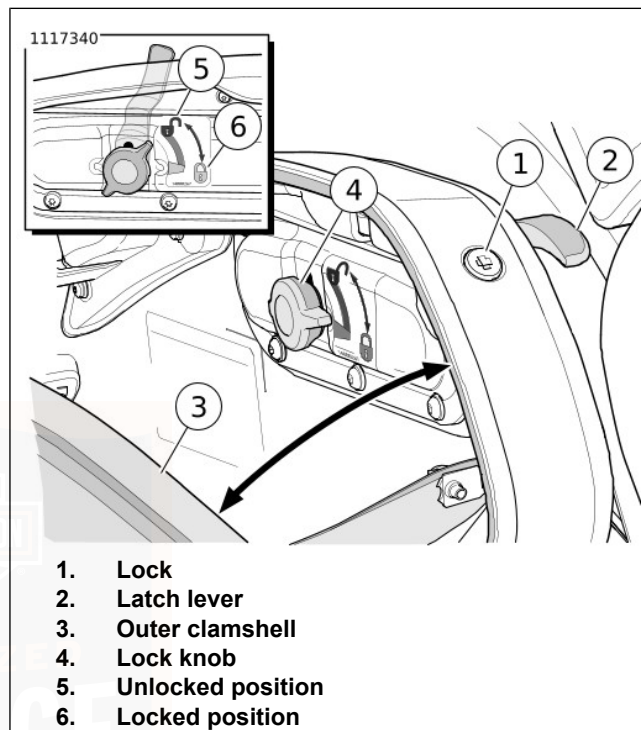
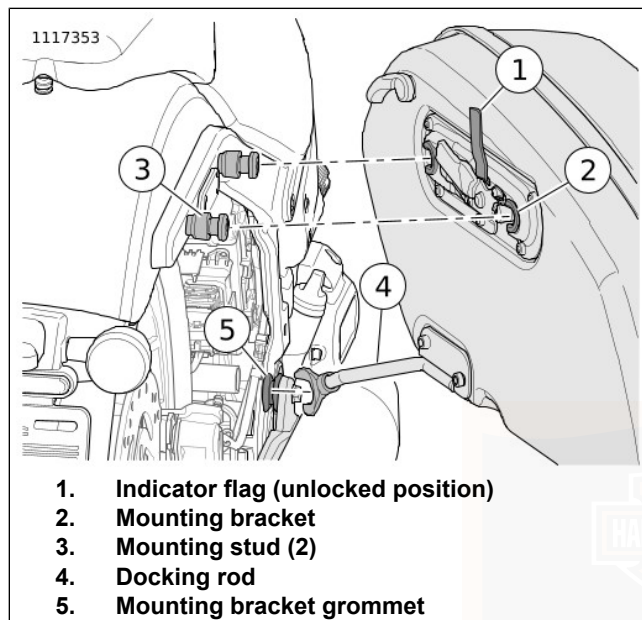
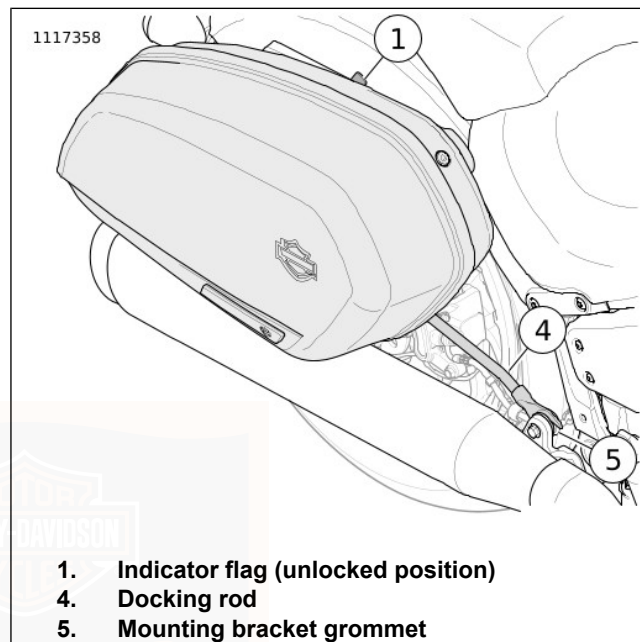

Figure 48. Saddlebag Lock Knob
Figure 49. Saddlebag Mounting Bracket
Figure 50. Saddlebag Docking Rod
1. See Figure 48. Unlock saddlebag.
- a. Insert key into lock (1) and rotate one-quarter turn counterclockwise.
2. Lift latch lever (2).
3. Open saddlebag by pulling outer clamshell (3) away from inner clamshell.
1. See Figure 48. Close saddlebag.
- a. Close clamshell by lifting outer clamshell (3).
- b. While holding saddlebag outer clamshell closed lower latch lever (2).
- a. Insert key into lock (1) and rotate one-quarter turn clockwise.
1. See Figure 48. Open saddlebag outer clamshell (3).
2. Pull out and turn lock knob (4) to the unlocked position (5).
3. Close saddlebag outer clamshell and lower latch lever (2).
4. See Figure 50. Slide saddlebag rearward to disengage the saddlebag docking rod (4) from the mounting bracket grommet (5).
3. See Figure 49 and Figure 50. Place saddlebag mounting bracket (2) on mounting studs (3) while aligning the saddlebag docking rod (4) with the mounting bracket grommet (5). Slide saddlebag completely forward.